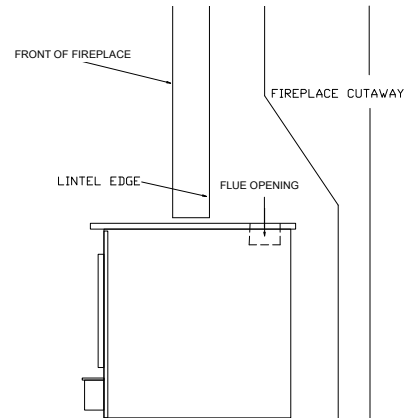

FIGURE 5 POSITIONING
When positioning heater, the following conditions **MUST** be met. (See Figure 5).
1. The front of flue opening must be positioned **BEHIND** rear edge of the lintel to ensure proper draft. (See Figure 5).